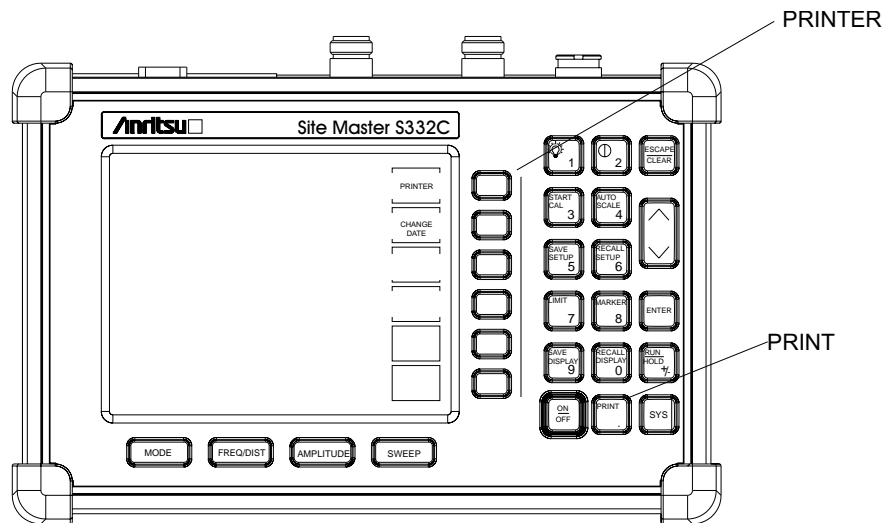

Figure 3-6-. PRINTER Soft Key and PRINT Key
Step 5. Press the **PRINT** key. (Figure 3-6).